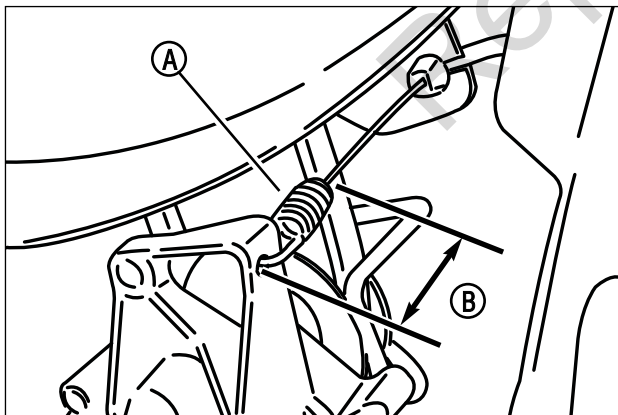

Figure 19: Measuring the disengaged transmission spring length
2. With the wheel drive control lever in the 'DISENGAGE' position, the spring (A, Figure 19) on the end of the wheel drive control cable should have no tension. Measure the overall length of the unextended spring (B).